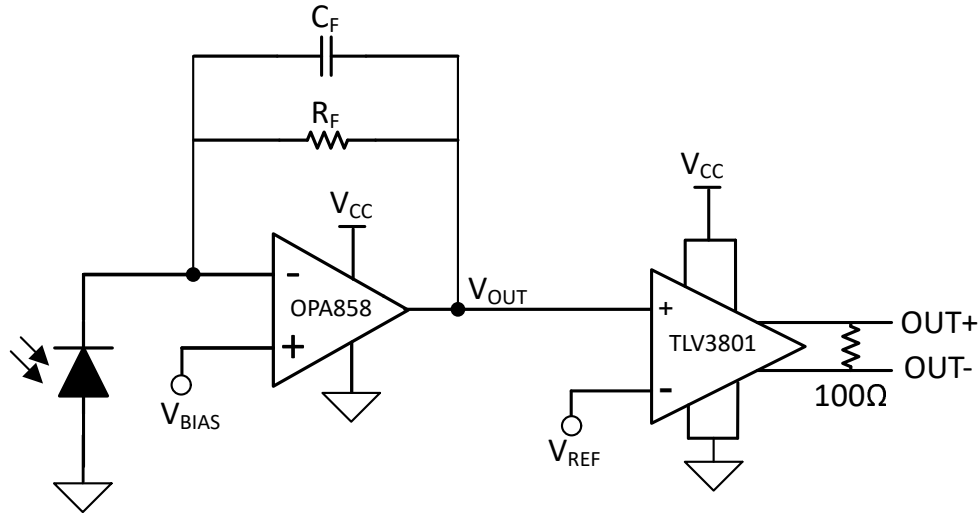

図 8-1. Optical Receiver
The TLV380x/TLV3811(C) can be used in conjunction with a high performance amplifier such as the OPA858 to create an optical receiver as shown in the Figure 8-1. The photodiode operates in photoconductive mode: exposure to light will cause a reverse current through the photodiode. A bias voltage is applied to the op amp's non-inverting input to prevent saturation at the negative power supply. The OPA858 takes the current conducting through the diode and translates it into a voltage for a high speed comparator to detect. The TLV380x/TLV3811(C) will then output the proper LVDS signal according to the threshold set (V_{REF}).